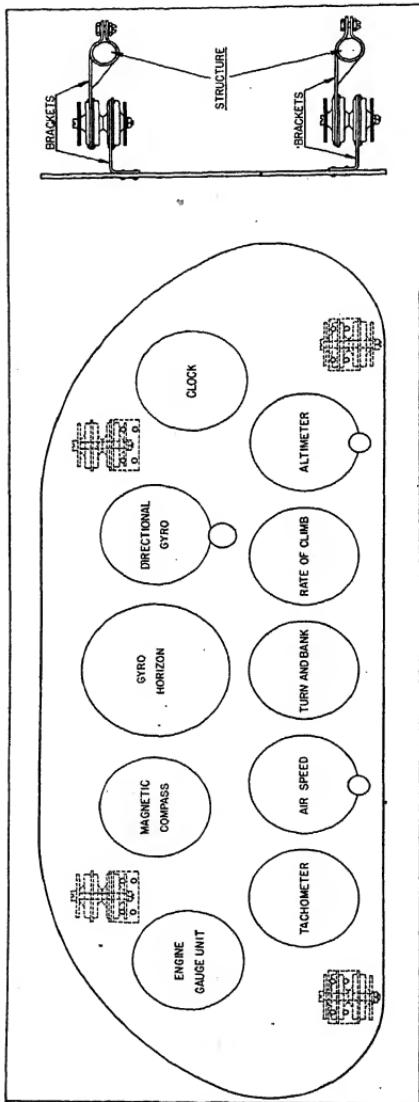
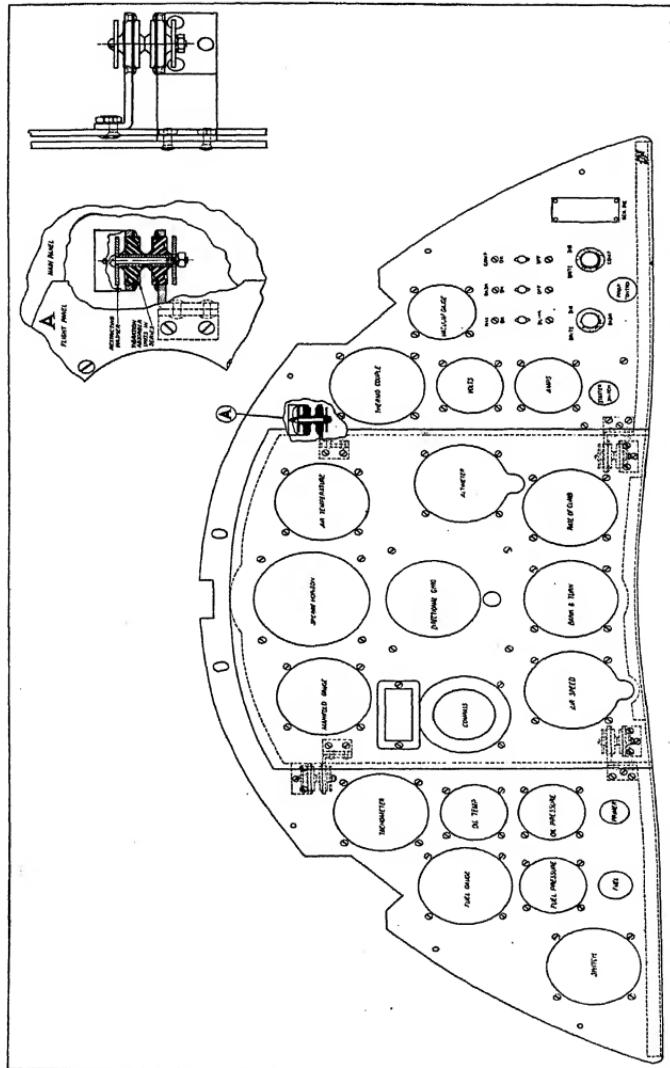

Fig. 73.—Shock-absorbing mounting of a complete instrument board.
Fig. 74.—Large instrument board divided into separate shock-absorbing panels.
5. Shock absorbers should be mounted in a plane passing through the center of gravity of the panel. A very effective method of shock-absorbing a complete instrument board is seen in Fig. 73. Where the panel is large, it may be best to mount flight instruments on a separate, shock-absorbed panel, as in Fig. 74.